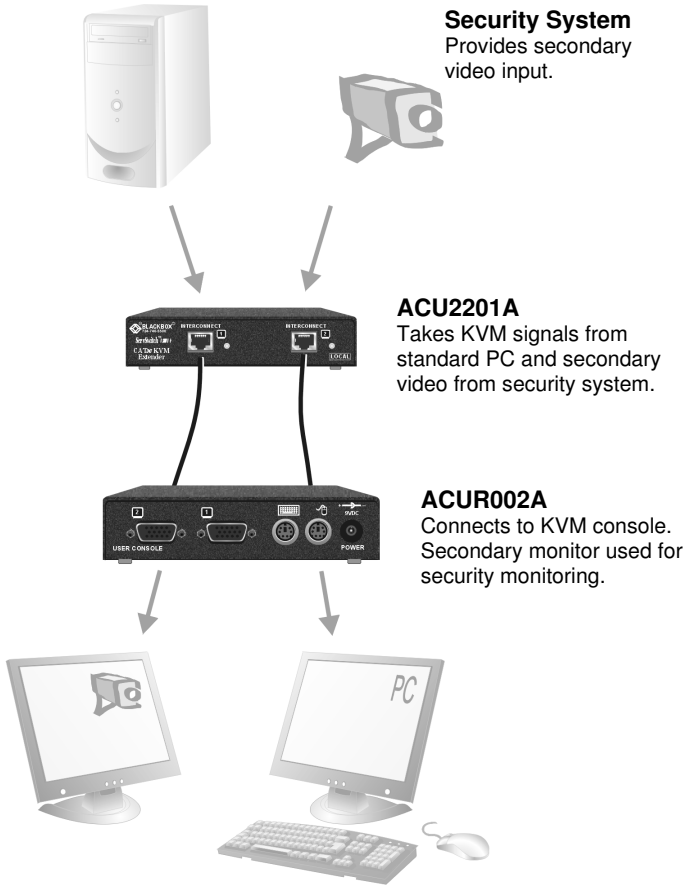

Figure 16
- Extender system with second screen for security monitoring (Figure 16).